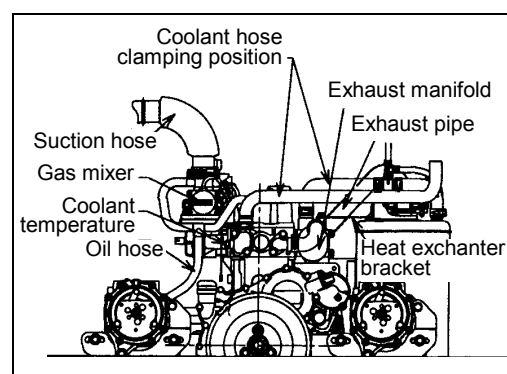

Fig. 1
(2) Disassembly procedure
- [1] Drain the coolant. See Figs. 1 and 2.
- [2] Remove the harness. See Figs. 1 and 2.